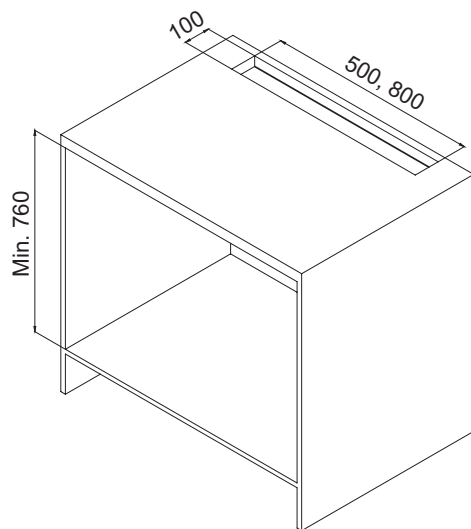

Fig. M1
1. Position the cutout to the countertop. The distance between the hob's edge and the hood's edge shall be max. 20 mm (see Figure M1).